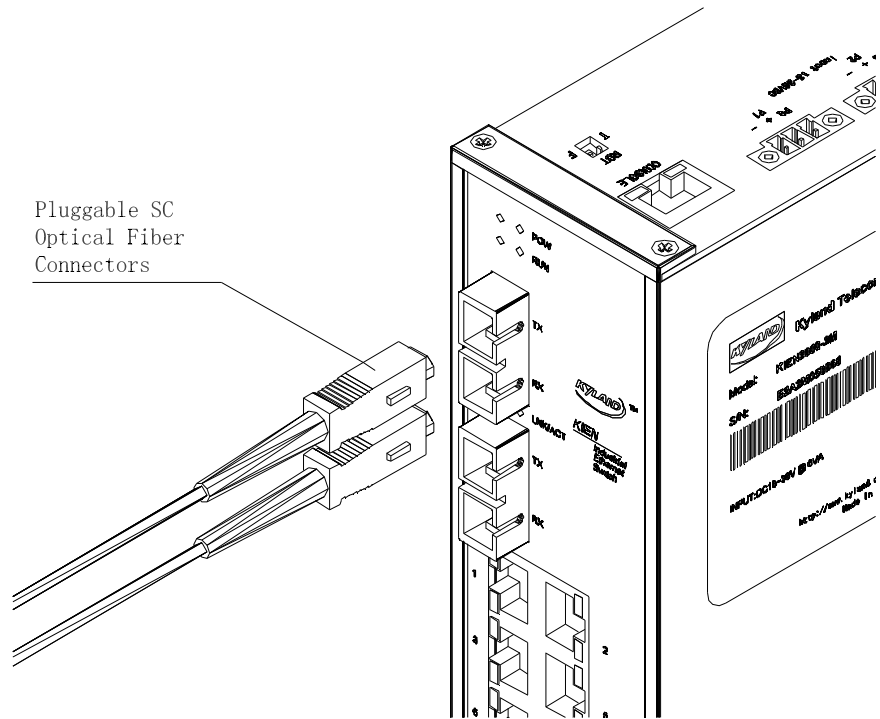

Figure 4-6 Fiber port connection
- 3 . Connect one end of optical fiber cable to the optical fiber interface of the switch and the other end to the optical port of another equipment as shown in Figure 4-6.